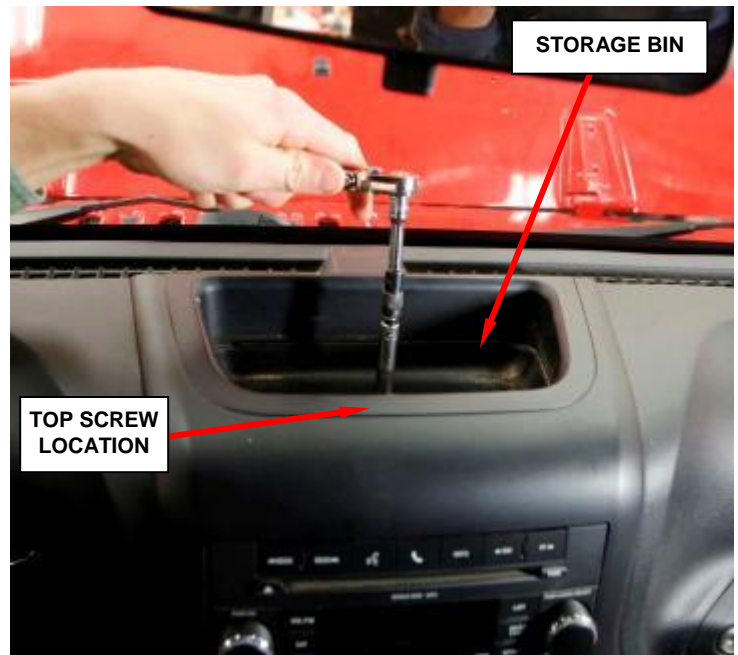

Figure 123 – Center Bezel Screws
18. Remove the storage bin mat and remove the top screw (Figure 123).